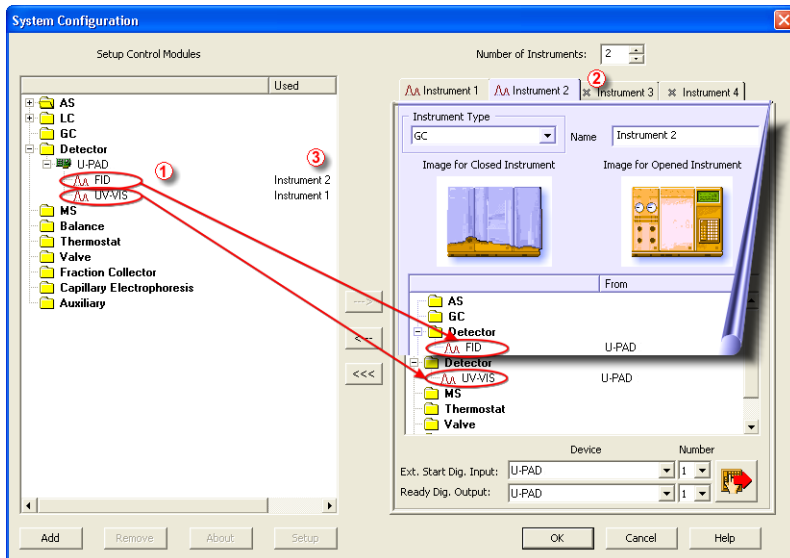

Fig. 10: System Configuration – multiple instruments
When measuring on multiple instruments using only a single **U-PAD** to gather data, rather than dragging the entire **U-PAD** icon from the *Setup Control Modules list* ①, drag the individual detector signals (**FID**, **UV-VIS** in this case) to separate Instruments ② (for more details see **Fig. 10** on pg. 11.). The Instrument to which the particular signal is connected is listed to the right ③ of the detector name in the *Setup Control Modules* section.